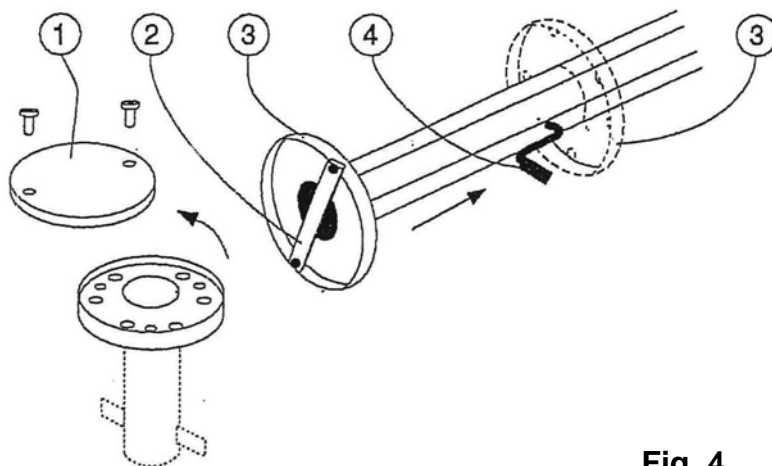
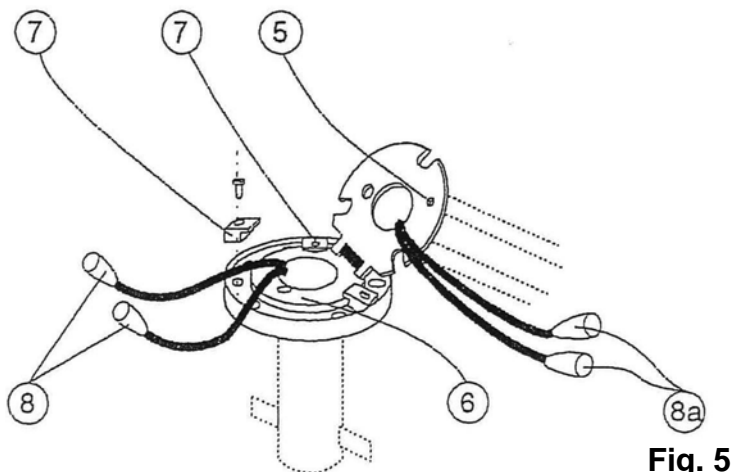
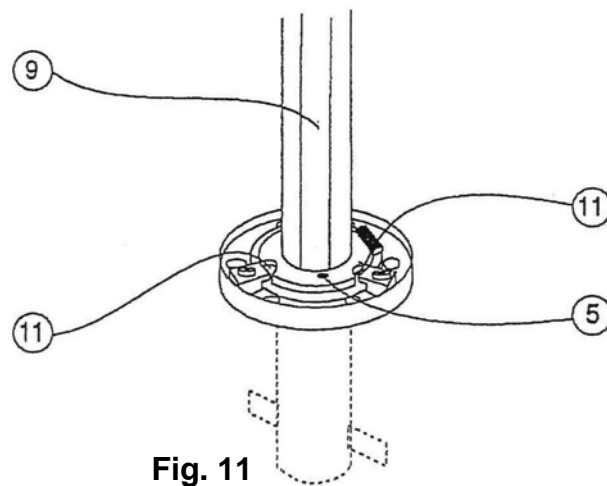

Fig. 4
Fig. 5
Fig. 11
- Unscrew the cover of the ground socket (1) (Fig. 4).
- Remove the fixing crosspiece (2) from the mast base and push the wraparound ring (3) up to the crank opening (4), pad against the mast and secure with the crank handle inserted.
- Release securing screw (5) and fold out the hinged disc (6) and place it on the ground socket (Fig. 5).
- In the case of electrical installation, connect plugs (8) and (8a) and screw together (take care to check that the voltage corresponds, 230/220V or 40V). Stow the loose cable away in the ground socket.
- Hold the mast vertically and release the securing screw (5) (Fig. 11).
- Remove the revolving holders (11), place them in a plastic bag and store them in the ground socket.
- Screw the hinged disc and the re-lowered wraparound ring with the fixing crosspiece (2) (Fig. 4).